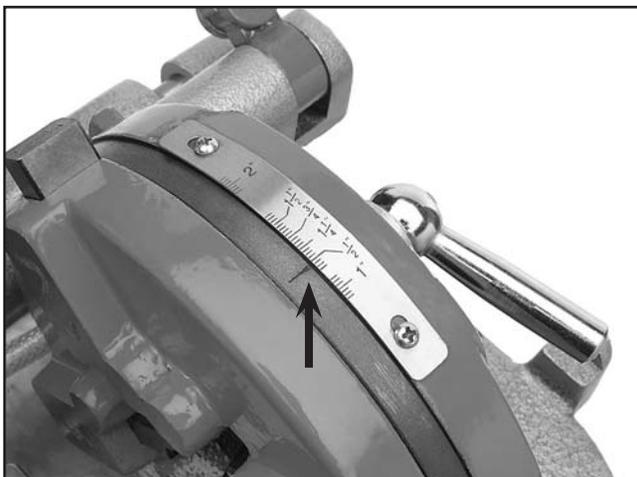

Figure 7. Close up of scale and marker used for setting pipe sizes.
5. Using the lock handle, adjust the marker on the threading tool to match your pipe size shown on the scale in **Figure 7**, then lock the handle in place.